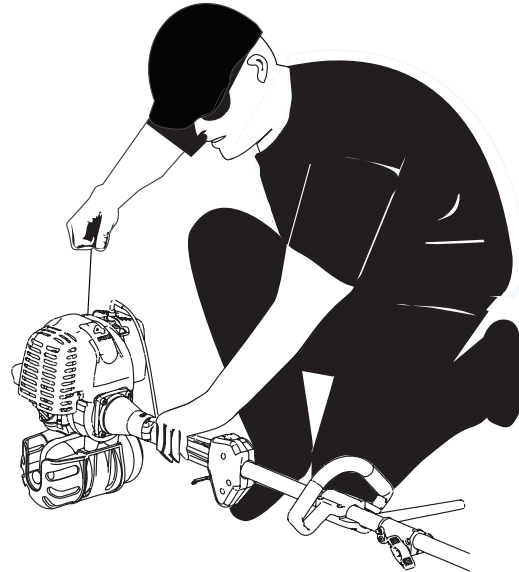

Fig. 14
3. Place trimmer firmly on the ground or a very sturdy work surface. Make sure cutting head is clear of all objects. Make sure all bystanders are a minimum of 50 feet (15 m) away. Do not attempt to start near pilot lights or any open flame. Do not smoke. Grasp the starter rope handle with one hand and the handle pole with the other hand ( Fig. 14).
AVOID ACCIDENTAL STARTING. MAKE SURE YOU ARE IN THE STARTING POSITION WHEN PULLING THE STARTER ROPE. (FIG. 14) TO AVOID SERIOUS INJURY, THE OPERATOR AND UNIT MUST BE IN A STABLE POSITION WHILE STARTING. MAKE SURE THAT ANY ADD-ON ITEM IS INSTALLED CORRECTLY AND SECURE BEFORE STARTING UNIT.